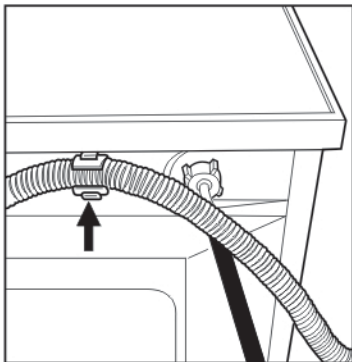

Fig.4
**Connection of the Drain Hose** Connect the drain hose to a drain duct (with internal diameter of at least 4 cm.) or place it for drainage into a sink or a tub, ensuring that there are no kinks or bends. The free end must be at a height of between 80 and 100 cm. Should it be necessary to fix the end of the hose at a height of less than 80 cm from the floor, the hose must be fixed in the appropriate hook on the upper part of the back panel (Fig.4) or use the supplied support to fix the drain hose.(Fig.5)